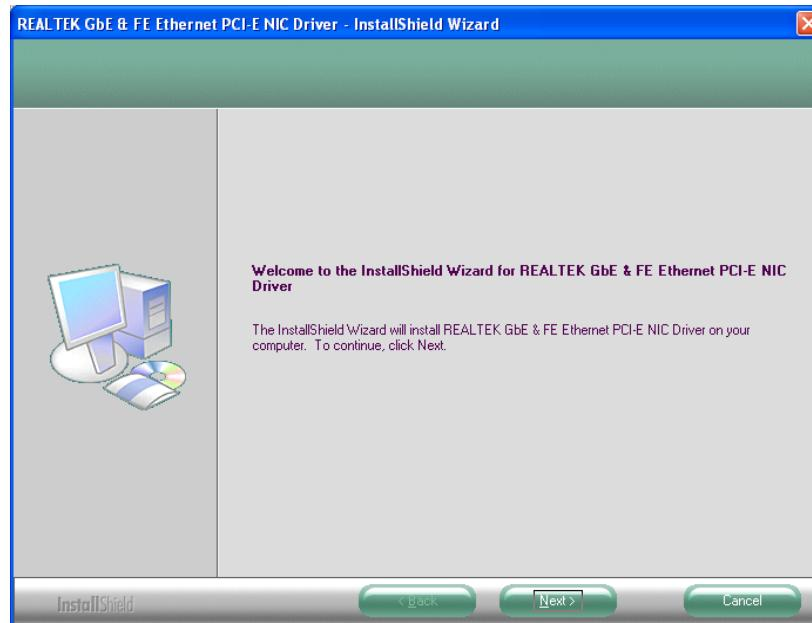

Figure 6-16: LAN Driver Welcome Screen
**Step 3:** The **Welcome** screen in **Figure 6-16** appears.